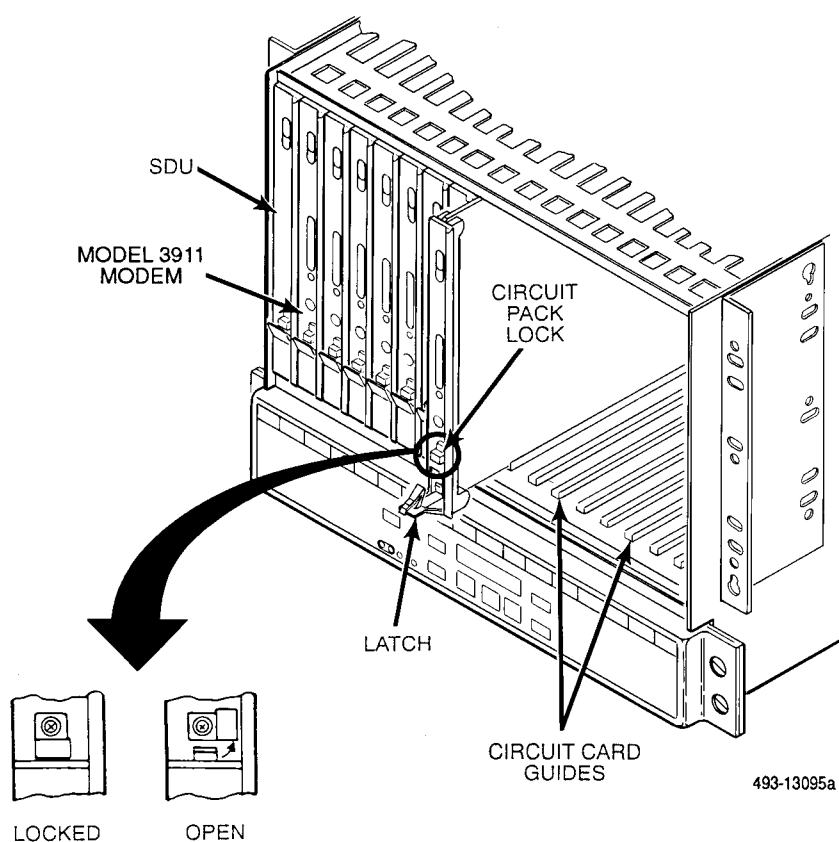

Figure 2-3. Circuit Pack Lock
6. Once you have determined that the modem is installed properly and completed its power-up self-test, rotate the circuit pack lock until it covers the faceplate latch (Figure 2-3) and tighten the retention screw on the circuit pack lock. This prevents the modem from accidentally being removed once it is installed in a carrier.